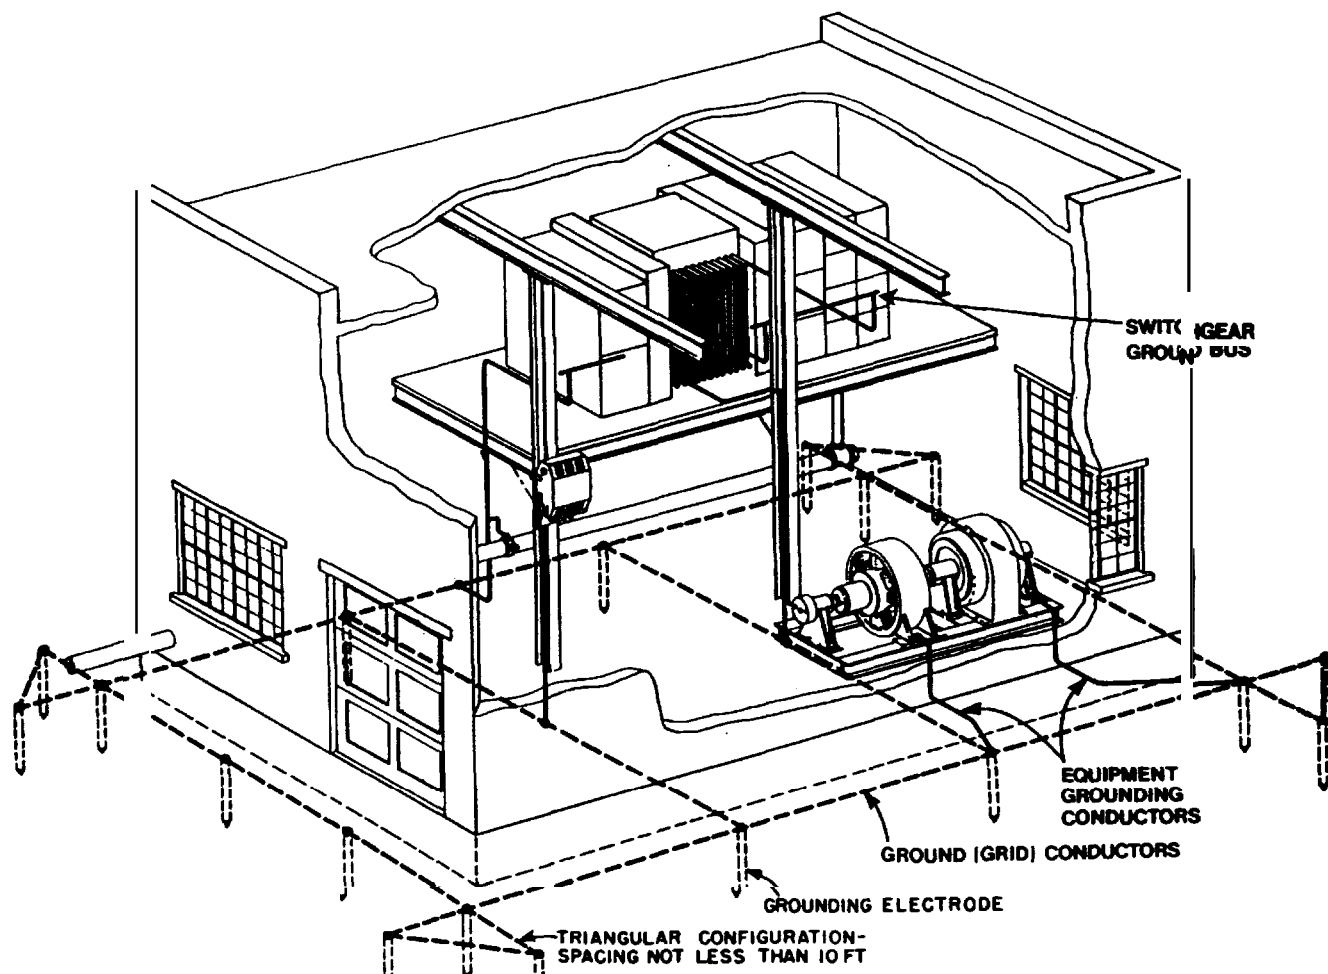

Figure 8-2. Typical grounding system for a building and its apparatus.
*b. Equipment grounds.* An equipment ground pertains to the interconnection and connection to earth of all normally non-current carrying metal parts. This is done so the metal parts with which a person might come into contact are always at or near zero volts with respect to ground thereby protecting personnel from electric shock hazards. Equipment grounding consists of grounding all noncurrent-carrying metal frames, supports and enclosures of equipment. All these metallic parts must be interconnected and grounded by a conductor in such a way as to ensure a path of lowest impedance for the flow of ground fault current from any line to ground fault point to the terminal at the system's source. An equipment grounding conductor normally carries no current unless there is an insulation failure. In this case the fault current will flow back to the system source through the equipment grounding conductors to protect personnel from electrical shock. The equipment grounding conductor must never be connected to any other hot lines. Equipment grounding systems must be capable of carrying the maximum ground fault current expected without overheating or posing an explosion hazard. Equipment grounds may be called upon to conduct hundreds to thousands of amperes at the line frequency during abnormal conditions. The system must be sized and designed to keep the equipment surface voltages, developed during such abnormal conditions, very low. An example of this system is the bare copper wire (green conductor) connected to the frames of electric motors, breaker panels, outlet boxes, etc., see figure 6-1 for typical equipment grounding. Electrical supporting structures such as metal conduit, metal cable trays or metal enclosures should be electrically continuous and bonded to the protective grounding scheme. Continuous grounding conductors such as a metallic raceway or conduit or designated ground wires should always be in from the ground grid system to downstream distribution switchboards to ensure adequate grounding throughout the electrical distribution system. A typical grounding system for a building containing significant electrical equipment and related apparatus is shown in figure 8-2, The illustration shown depicts three most commonly en-